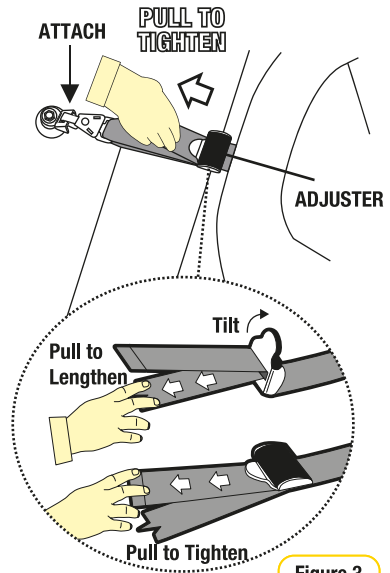

Figure 3
Step 4: Pull to tighten and remove all the slack, from the top tether strap (refer to Figure 3). Do not overtighten as this could cause the restraint to lift off the vehicle seat.
Step 3: Position the lap section of the vehicle seat across the child's lap then insert the buckle tongue in to the belt buckle until you hear “CLICK”. Ensuring the lap portion is positioned under the armrests and over the child's thighs (refer Figure 3).